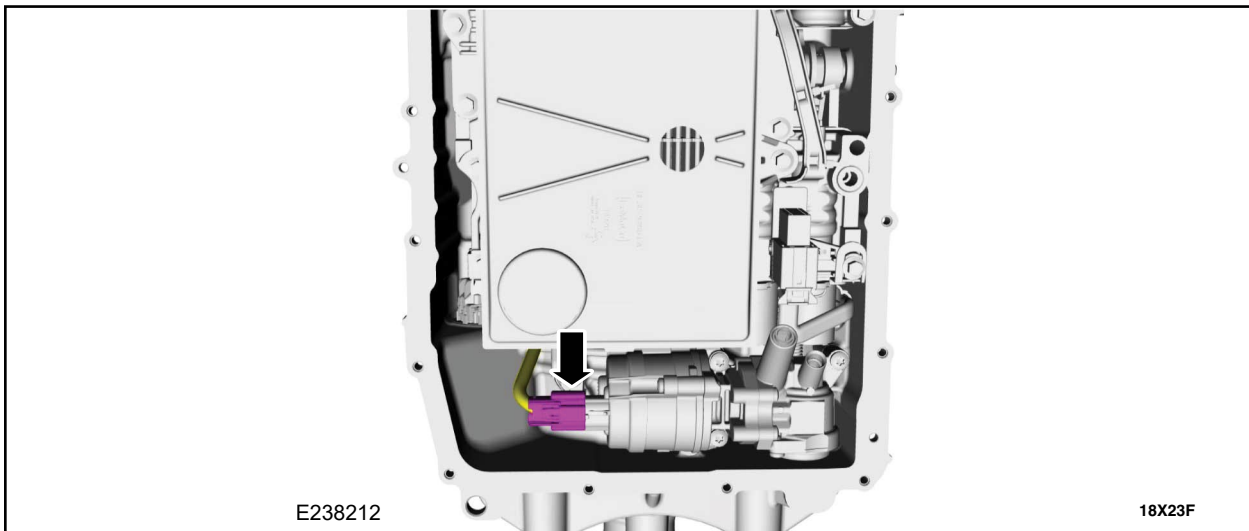

FIGURE 4
6. Disconnect the transmission fluid auxiliary pump electrical connector. See Figure 4.